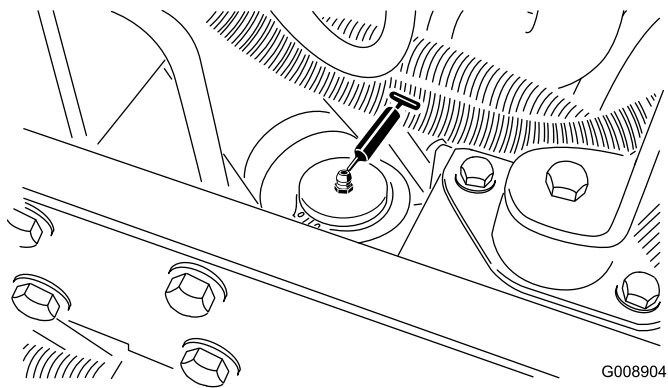

**Figure 53**
- Right front lift arm pivot and lift cylinder (2) (Figure 53)